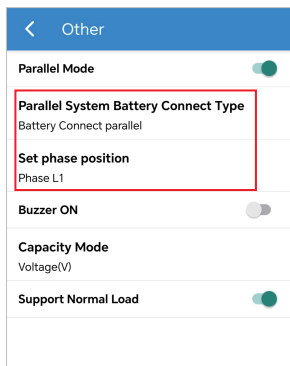

Figure 4-3 Inverter N1-Phase 1
4. Under three-phase connection mode, it is necessary to connect APP to each inverter and set corresponding battery connection type and phase position, as shown in *Figure 4-3–4-5*.